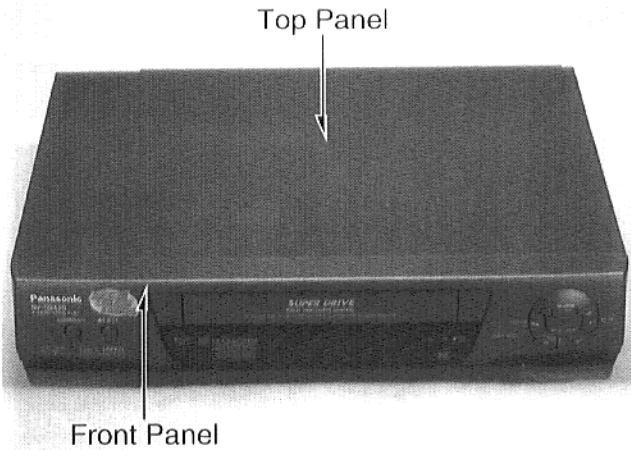

Fig. B1
(1) Remove Top panel and Front panel unit (Fig. B1).